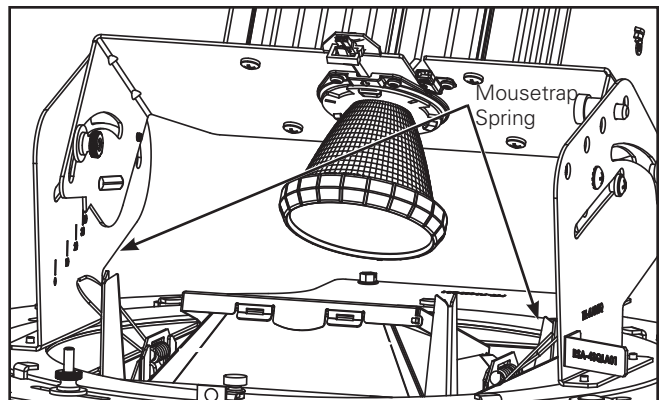

Figure 12.
2. Install Trim Assembly by inserting Mousetrap Springs into Square Aperture inside collar (Figure 12).